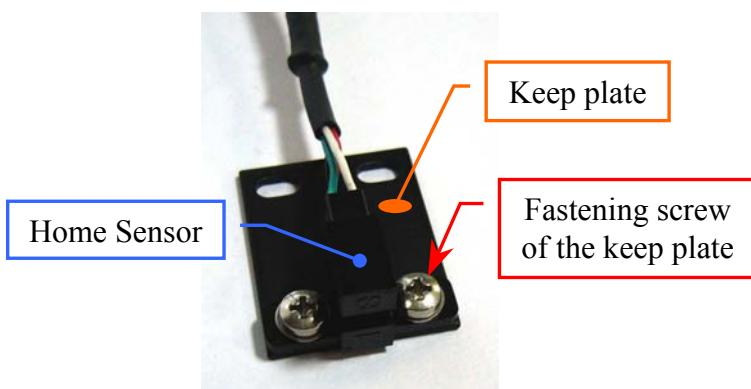

Fig. 104 – Keep plate fastening screws of the Home Sensor
5. Unscrew the two keep plate fastening screws of the Samples Plate Home Sensor (**Fig. 104**) and take out the sensor from the keep plate.
6. Position the keep plate below the new home sensor as showed in **Fig. 104**, center the sensor with respect to the keep plate and screw its two fastening screws.
5. Unscrew the two keep plate fastening screws of the Satellites Mov. Samples Plate Home Sensor (**Fig. 104**) and take out the sensor from the keep plate.